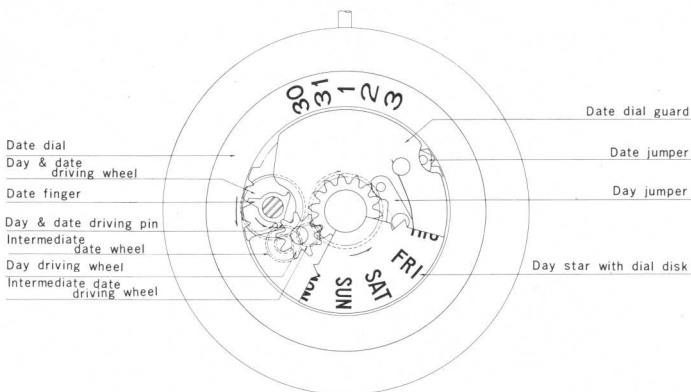

Fig. 7
**4-2. Mechanism of calendar device (Fig. 7)**